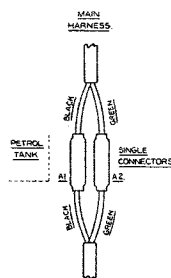

FIG. 1
3. Fig. 1 shows the rear and stop lamp wiring before conversion and indicates approximate position of the two insulated connectors, A1 and A2. These form a junction between two wiring harnesses each terminating in cable outlets including a GREEN and a BLACK cable (the only ones concerned in the conversion). The exact position of these two connectors varies with different models but is always roughly where shown. The two wiring harnesses referred to must now be separated by removing these connectors. This may in some cases be achieved by sharply pulling the cable apart but this procedure is NOT RECOMMENDED as the connectors are designed to be a tight fit and pulling may result in fracturing the cables at the terminal ends inside the connectors. As these two connectors are no longer required the best method of removal is to cut off the outer rubber sleeves with a penknife and then prise open the metal ferrules underneath. It must be emphasized again that the connectors on the GREEN and the BLACK cables ONLY must be removed.